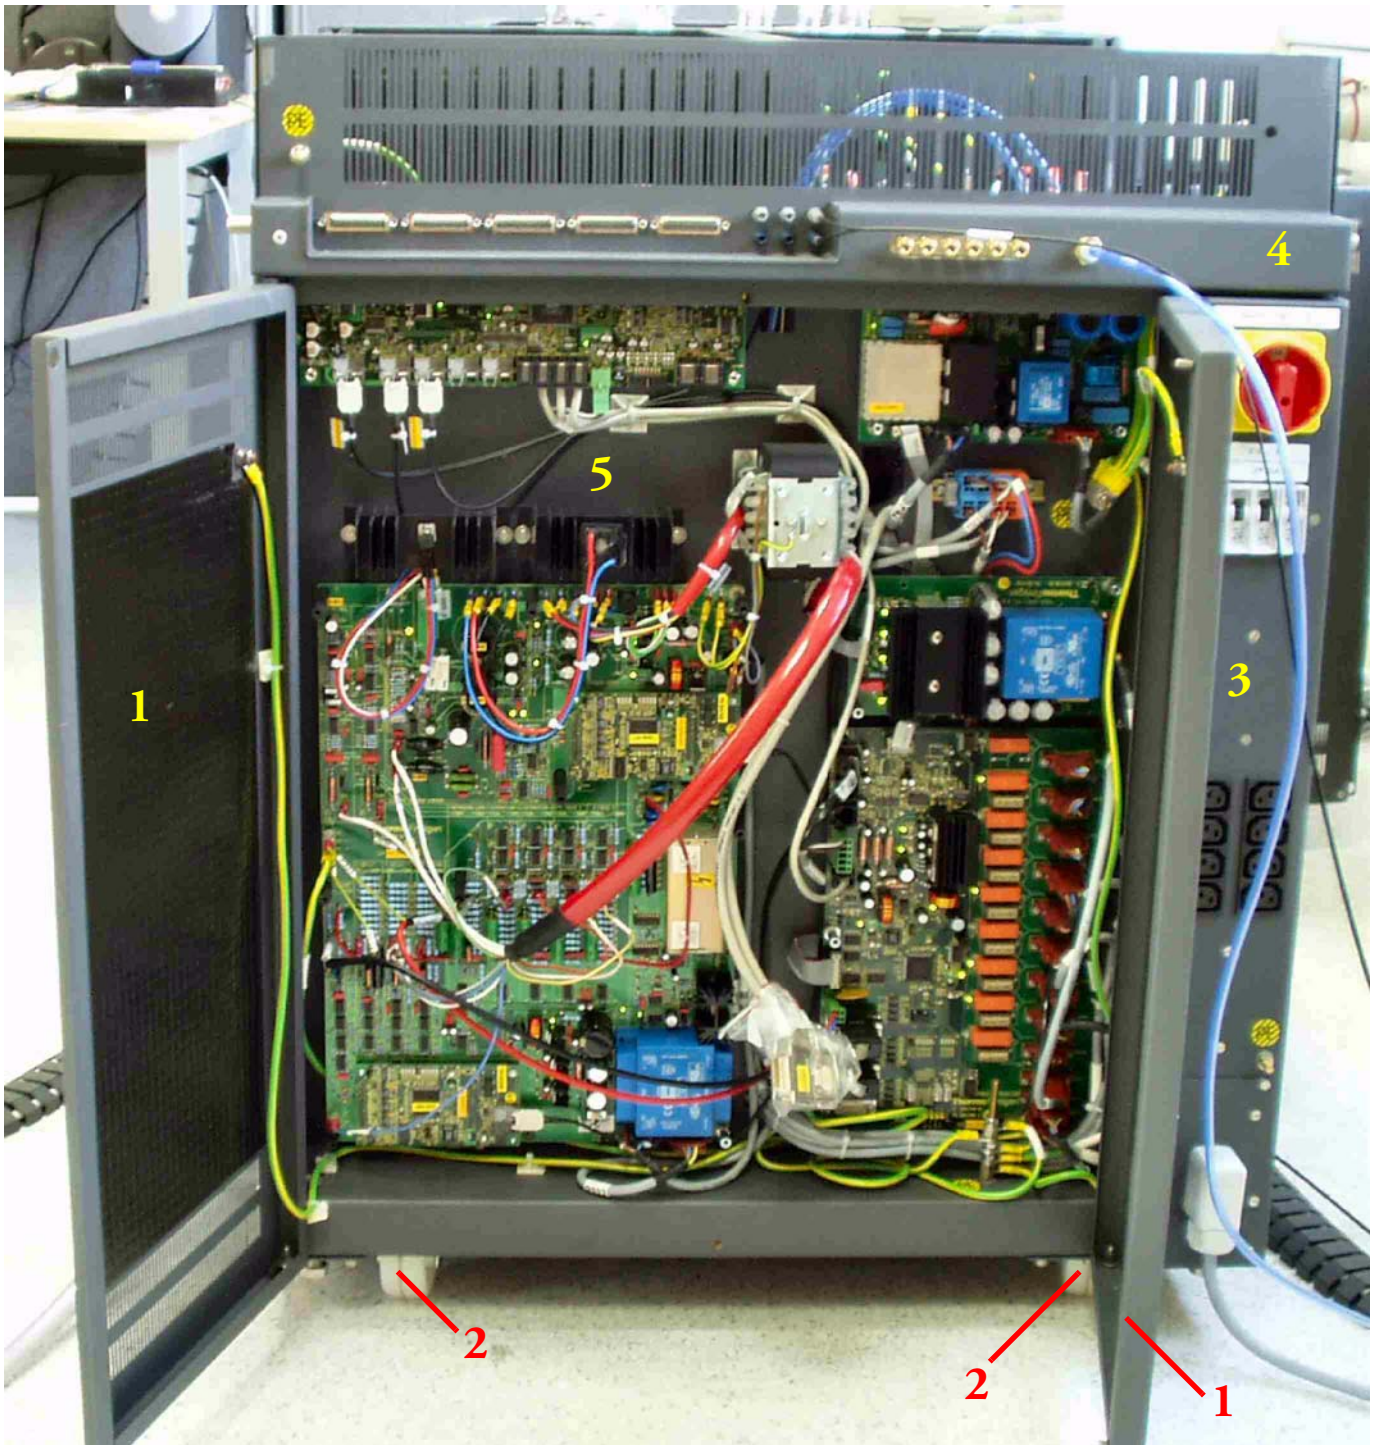
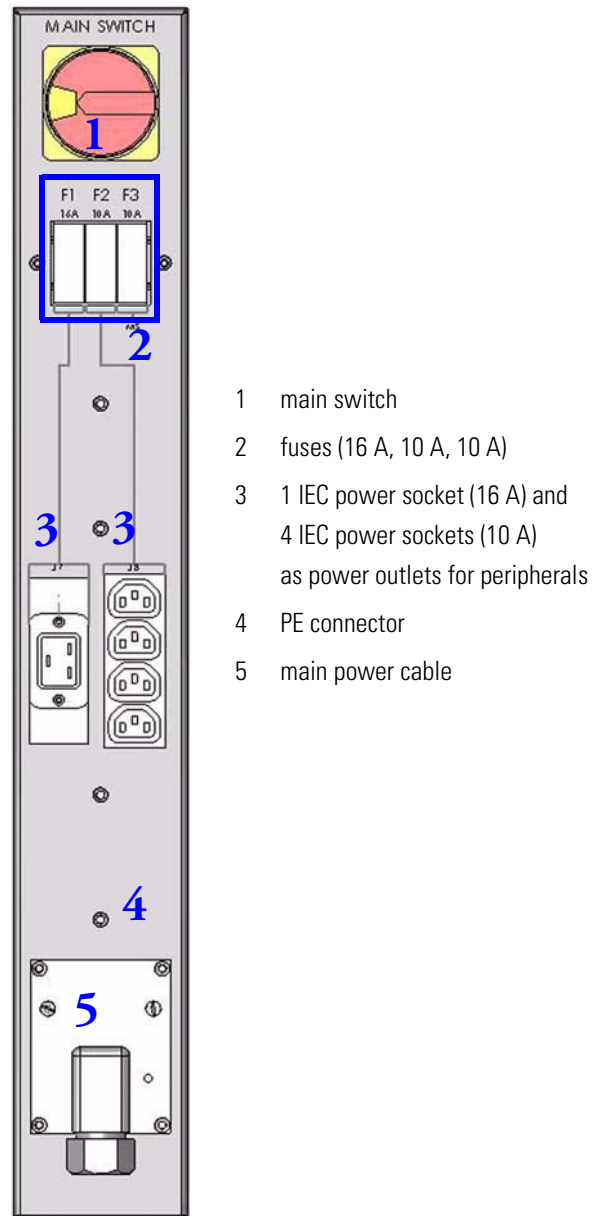

Figure 2-42. Rear Side of DELTA V Advantage
Figure 2-43. Right Faceplate
*See Figure 2-42.
The left and right back doors, **1** in Figure 2-42, give access to the electronics cabinet **6**.
It is equipped with four rolls, **2** in Figure 2-42, to be located in position. Each roll can be arrested by unscrewing its adjusting screw, but normally you can leave them unarrested during any operation as the rolls bear the weight. Therefore, DELTA V Advantage will usually not change its position on a flat floor.
The right faceplate and its parts are shown in Figure 2-43 and as **3** in Figure 2-42. It is arranged right to the electronics cabinet and houses the power supply system.
* Outdated figure. Will soon be changed according to the actual Figure 2-43.
Upper Faceplate The upper faceplate, Figure 2-47 and 4 in Figure 2-42, is arranged above the electronics cabinet and houses the following parts: